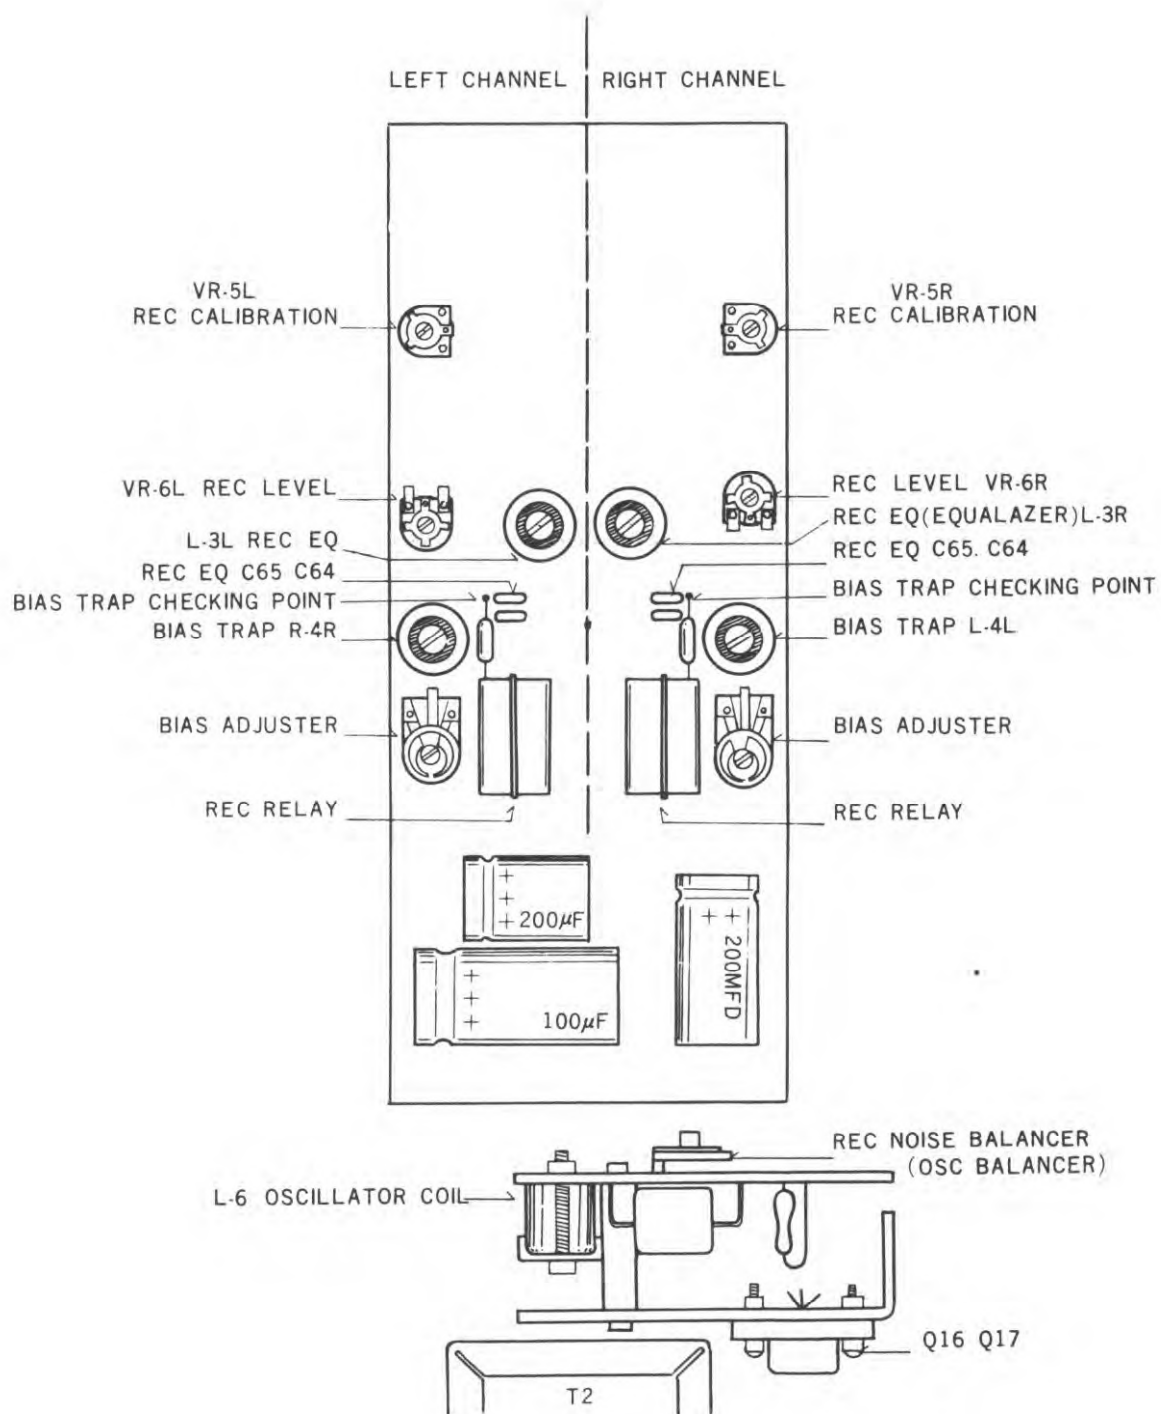

FIG.17 ADJUSTABLE PARTS LOCATION (TOP VIEW)
2. While recording a 500 Hz tone on a blank tape, adjust VR-7 (Figure 17) for maximum peak on the VTVM, then turn the potentiometer clockwise until the reading decreases by 0.5dB from the maximum level.
3. Connect the Audio Oscillator to the RIGHT channel LINE input and repeat Step 2, adjusting VR-8 (Figure 17).
2. While holding a VTVM probe at the junction of C-61L and L-4L (Figure 17) adjust L-4L for minimum reading on the VTVM.
3. Repeat the procedure for the right channel by connecting the VTVM to the junction of L-4R and C-61R (Figure 17). Adjust L-4R for minimum reading on the VTVM.
5. While recording a 500 Hz signal on the tape, adjust VR-6L (Figure 17) to obtain VU meter reading of 0 VU on the left channel adjust VR-6R to obtain VU meter reading of 0 VU on the right channel.
4. Record signals from 50 Hz to 15 KHz at $7\frac{1}{2}$ ips, or from 50 Hz to 7.5 KHz at $3\frac{3}{4}$ ips. Read the output on the VTVM. If adjustment is required, adjust the value of R-115L (Figure 17) for the low end and C-65L for the high end at $7\frac{1}{2}$ ips. Adjust C-64-L for high end response at $3\frac{3}{4}$ ips. For left channel. Adjust R-115R C-65R and C-64-R for right channel. These are fixed components and have to be replaced with other values. An increase in resistance lowers the low end response. An increase in capacitance increases the high end response.